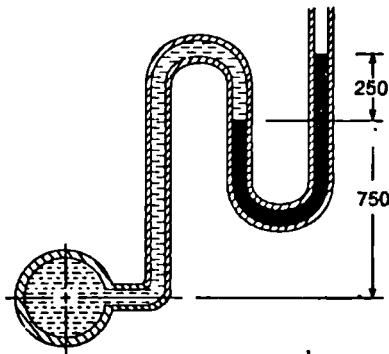

Fig. 2-15.
4. Fig. 2-15 shows a manometer connected to a pipeline, containing an oil of specific gravity 0.8. Find the pressure of oil in the pipe. [Ans. 39.4 kPa]